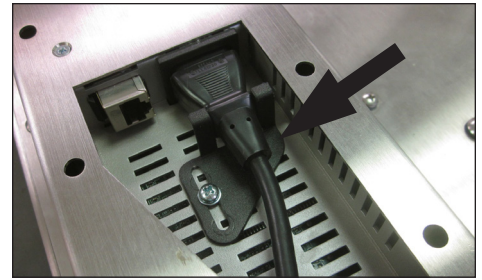

FIGURE 4
7.  Loosen the power cable retaining clip in the well on the KVM Remote Module. Connect a power cable to the module's power connector then retighten the retaining clip as shown in Figure 4.